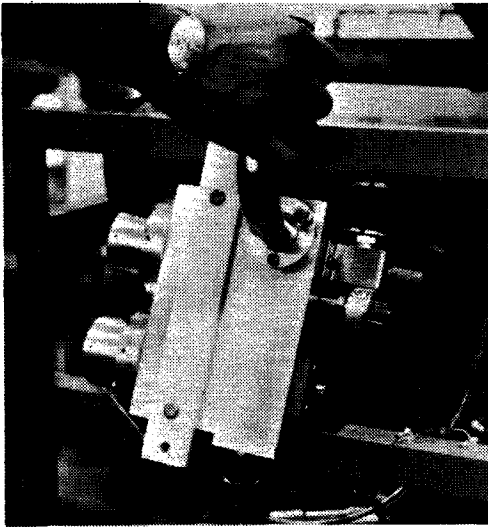

Figure 6-17. *Lifting Valve Block Assembly Clear of Frame*
4. Using a 7/16-inch wrench, remove the top and bottom bolts from the front of the valve block bracket. Lift the valve block assembly to clear the frame cross-member, then swing the bottom clear and remove (Figure 6-17).